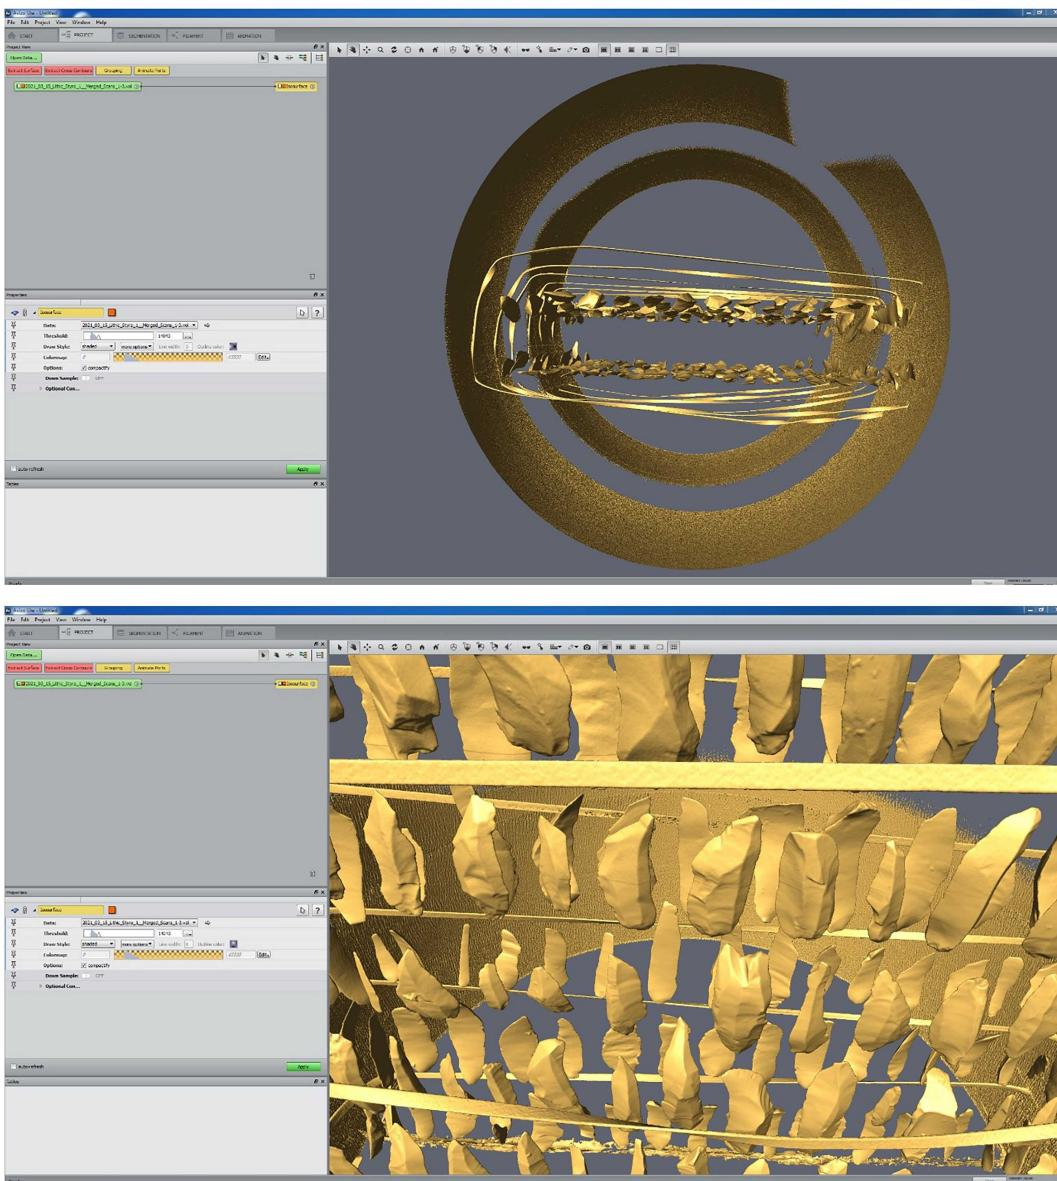

Fig. 13 (top) and 14 (bottom): Isosurface with clear separation between the lithic artefacts and other materials (e.g., rubber bands and Styrofoam).
21.4 When completed, inspect the resulting isosurface model (Fig. 13 and 14) and check for ‘unusual’ or ‘unnatural’ surface inconstancies, ‘noise’, and scanning artefacts.
21.7 When completed, again inspect the resulting isosurface model (Fig. 13 and 14) and check surface inconstancies (see **Step 21.5**).